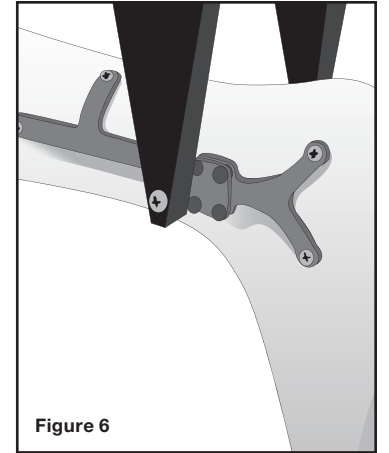

Figure 6
4. Affix hinges to positive model using nails or small wood screws. See Figure 6.